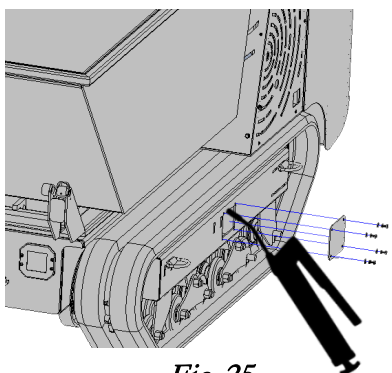

Fig 25
1. Remove the tensioner access plate on the side of the tracks. **(Fig 25)**